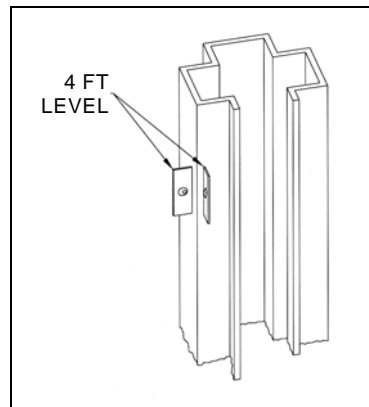

Figure 14. Post leveling
6. Use a 4' level, to level the posts. Refer to Figure 14.